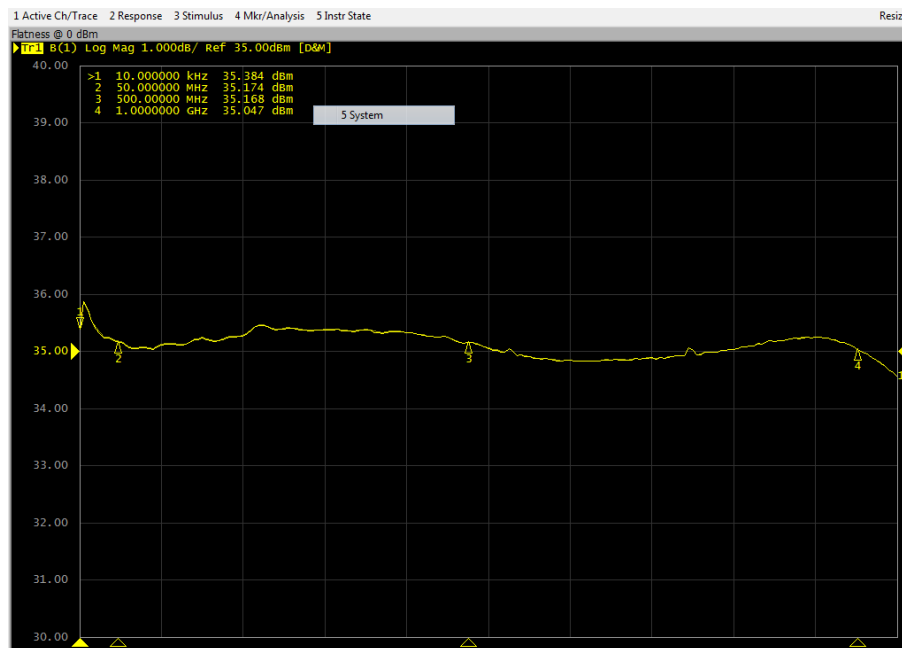

Figure 4-4. Typical A1 Pre-Amplifier Response
3. The typical response for the A1 Pre-Amplifier (at maximum gain setting) is shown in Figure 4-4.